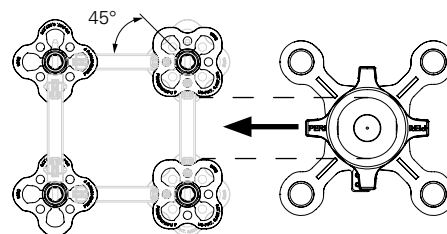

Fig. A1.06a
1. Remove the horizontal ledge (3) up to the joint of the standard on three sides of the prop.
2. Remove the  $\varnothing$  48/57 locking pins (5) from two opposite standards.
3. Turn both free Standards UVR by 45°. (Fig. A1.06a)